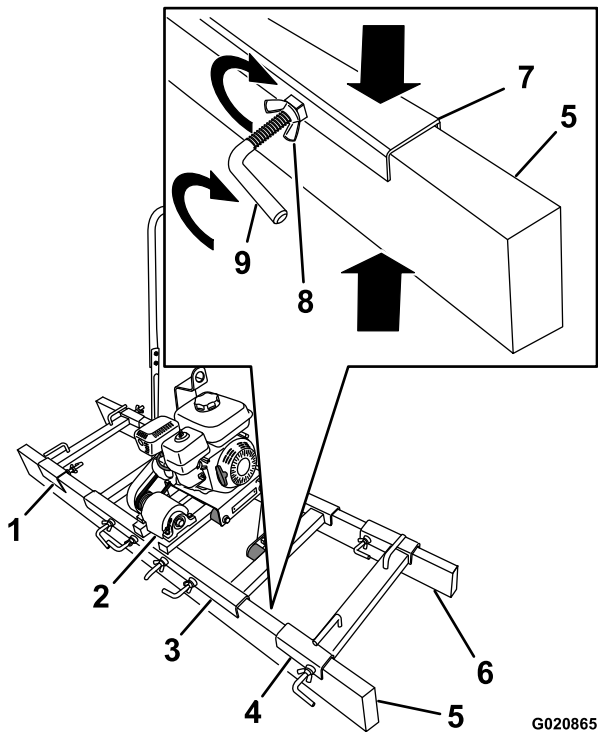

Figure 18
2. Raise the front of the machine 10 to 12 inches, and align the forward screed board to the forward U-channel of the frame (Figure 18).
3. Align the screed board to the U-channel and center the board the machine (Figure 18).
4. Lightly tighten the L-bolts in the forward U-channel (Figure 18).
5. Raise the rear of the machine 10 to 12 inches, and align the rear screed board to the rear U-channel of the frame (Figure 18).
6. Align the screed board to the U-channel, and center the board to the machine (Figure 18).
7. Secure the screed board to the machine by tightening all the L-bolts and wingnuts (Figure 18).
2. Align channels of the spreader to the screed boards and seat the spreader onto the boards (Figure 18).
4. Secure the spreader to the screed boards with the L-bolts and wingnuts (Figure 18).
2. Loosen the wingnuts and L-bolts that secure the spreaders to the screed boards, and remove the spreaders (Figure 18).
3. Raise the rear of the machine 10 to 12 inches, and remove the rear screed board from the rear U-channel of the frame (Figure 18).
4. Loosen the wingnuts and L-bolts that secure the rear screed board to the rear U-channel of the frame, and remove the screed board (Figure 18).
5. Raise the front of the machine 10 to 12 inches, and remove the forward screed board from the forward U-channel of the frame (Figure 18).
6. Loosen the wingnuts and L-bolts that secure the forward screed board to the forward U-channel of the frame, and remove the screed board (Figure 18).